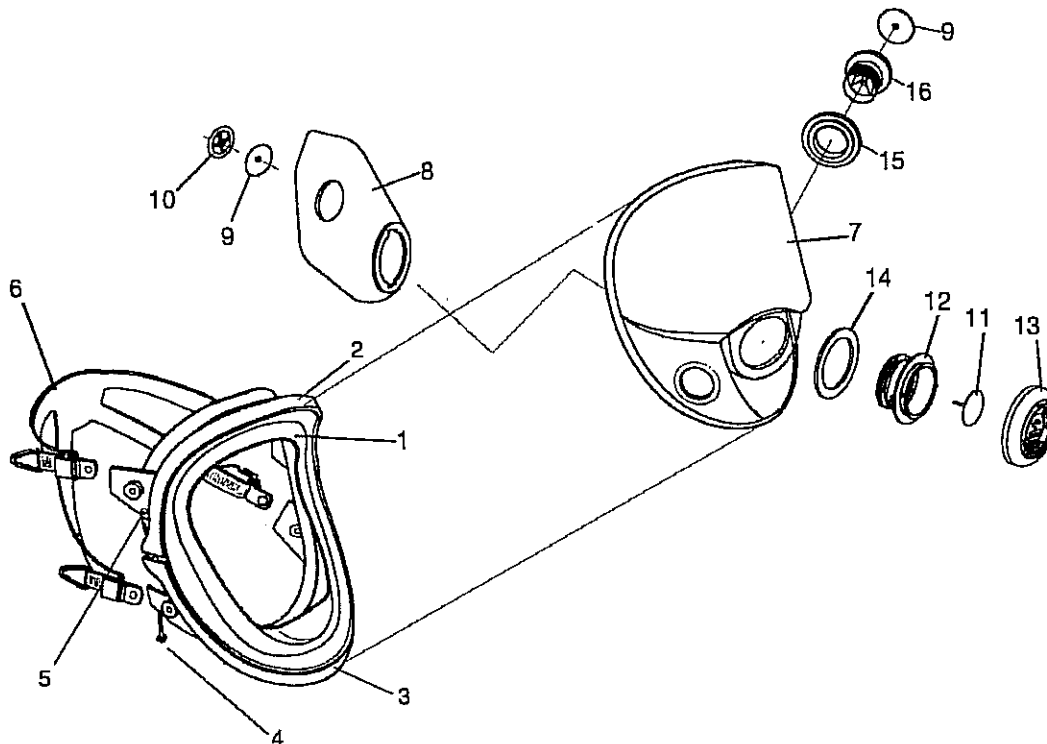

FIGURE 21
9.2 5400 REPLACEMENT PARTS (See Figure 21.)